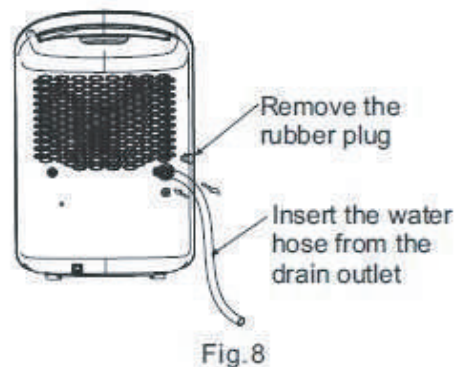

Fig.8
- Insert the water hose into the unit from the drain outlet in the back of the unit as shown in Fig.8. Attach the water hose to the drain hose outlet of the unit. Make sure the connection of the water hose and the drain hose outlet of the unit is tight and do not let the water leak.